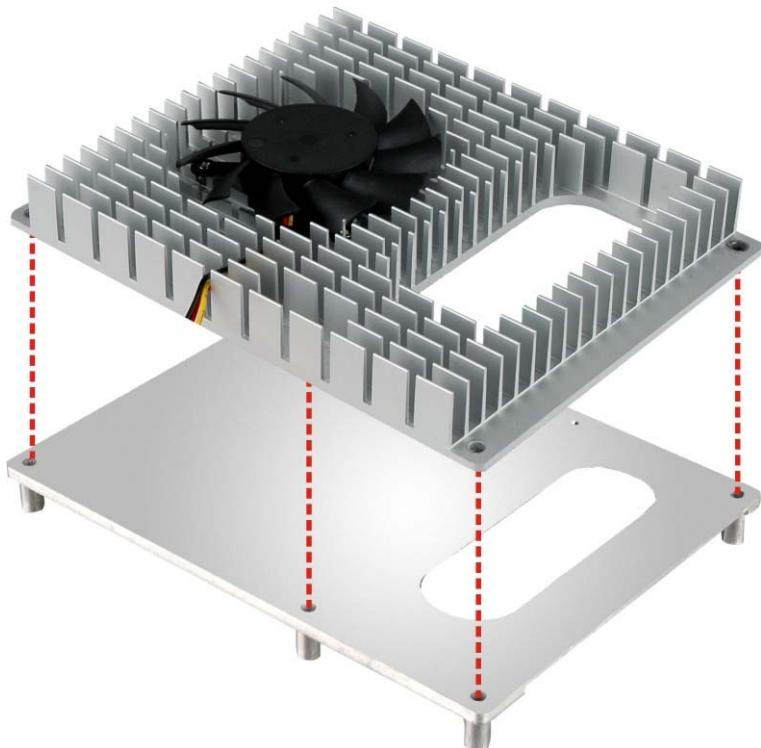

Figure 4-4: Attach the Cooling Kit to the Heatspreader Plate
Step 2: Place the supplied cooling kit on the heatspreader plate, aligning the retention screw holes (Figure 4-4). Ensure to apply thermal paste to the heat sink or heatspreader plate for optimum heat dissipation.